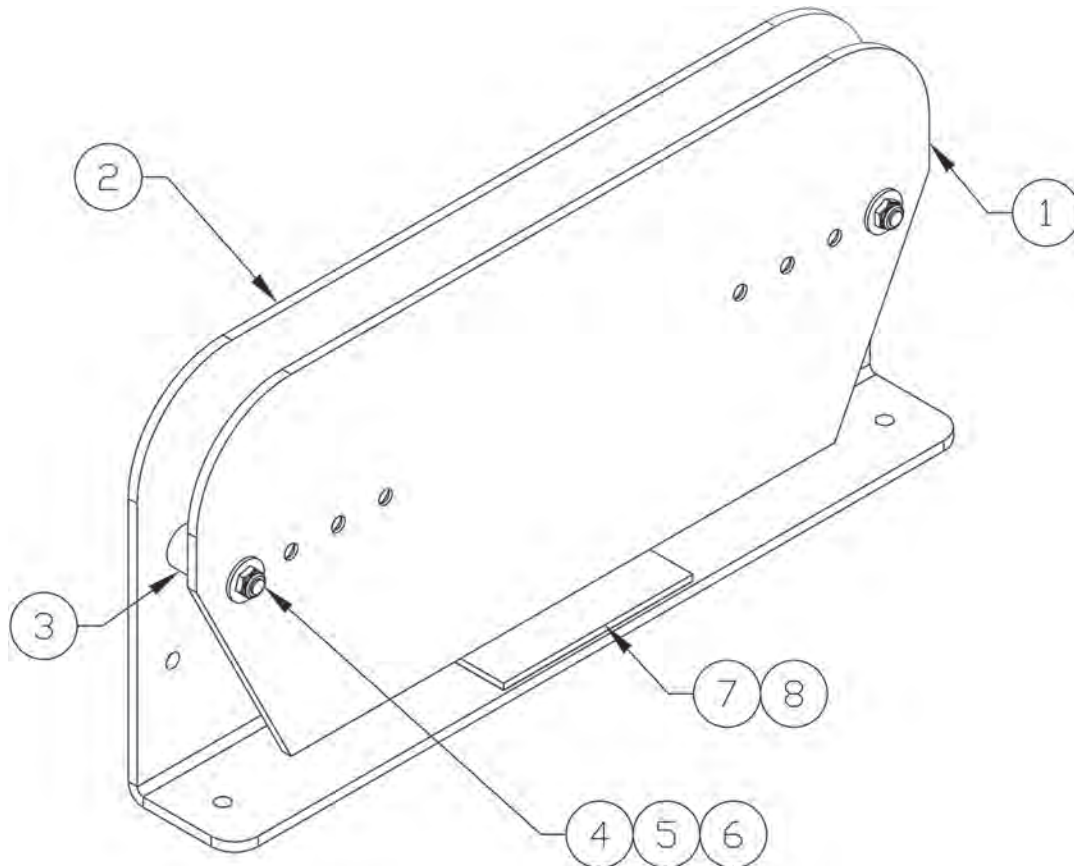
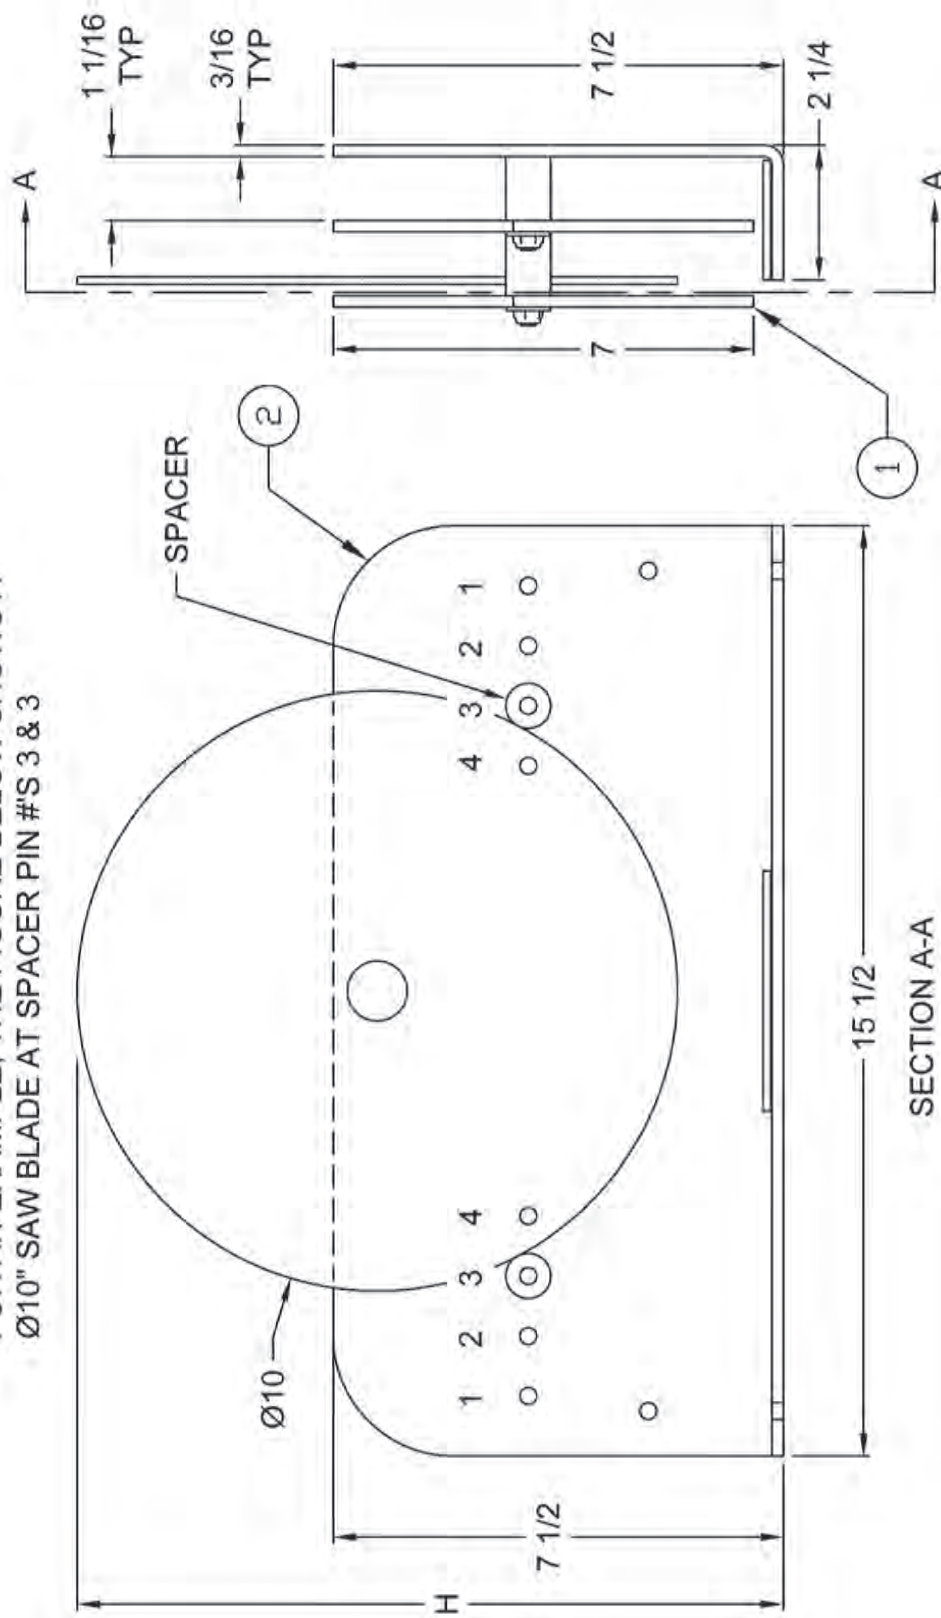
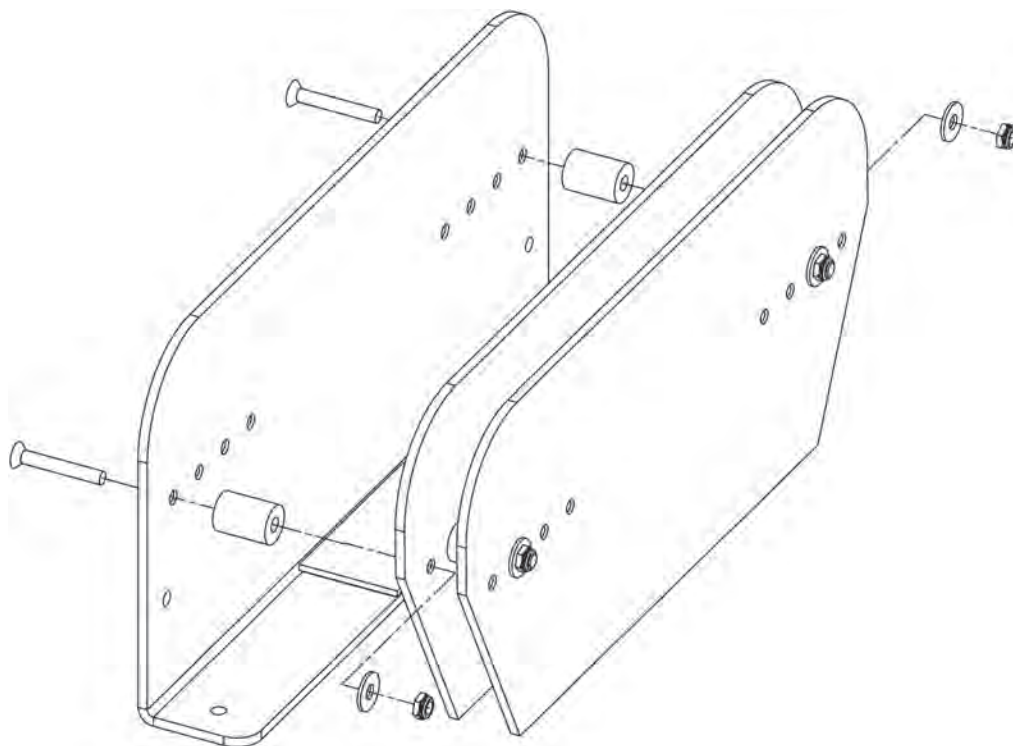

FIGURE 1
FIGURE 2
FIGURE 4
1. See Figure 2. Plan out spacer location based on the diameter of the saw blade you'd like to store. If more than one storage slot is going to be used, plan to have the blades in a tiered arrangement from largest to smallest. The smallest saw blades will be stored furthest from the Blade Box Outer Panel (Figure 1, Item 2).
Note: If only one slot will be needed, see Figure 1 for assembly, then skip to Step 4.
3. Attach the storage slot(s) assembled in Step 2 to the Blade Outer Box Panel (Figure 1, Item 2). See Figure 4.
4. Mount assembled Saw Blade Holder using 1/4" hardware via the holes in Blade Box Outer Panel (Figure 1, Item 2).